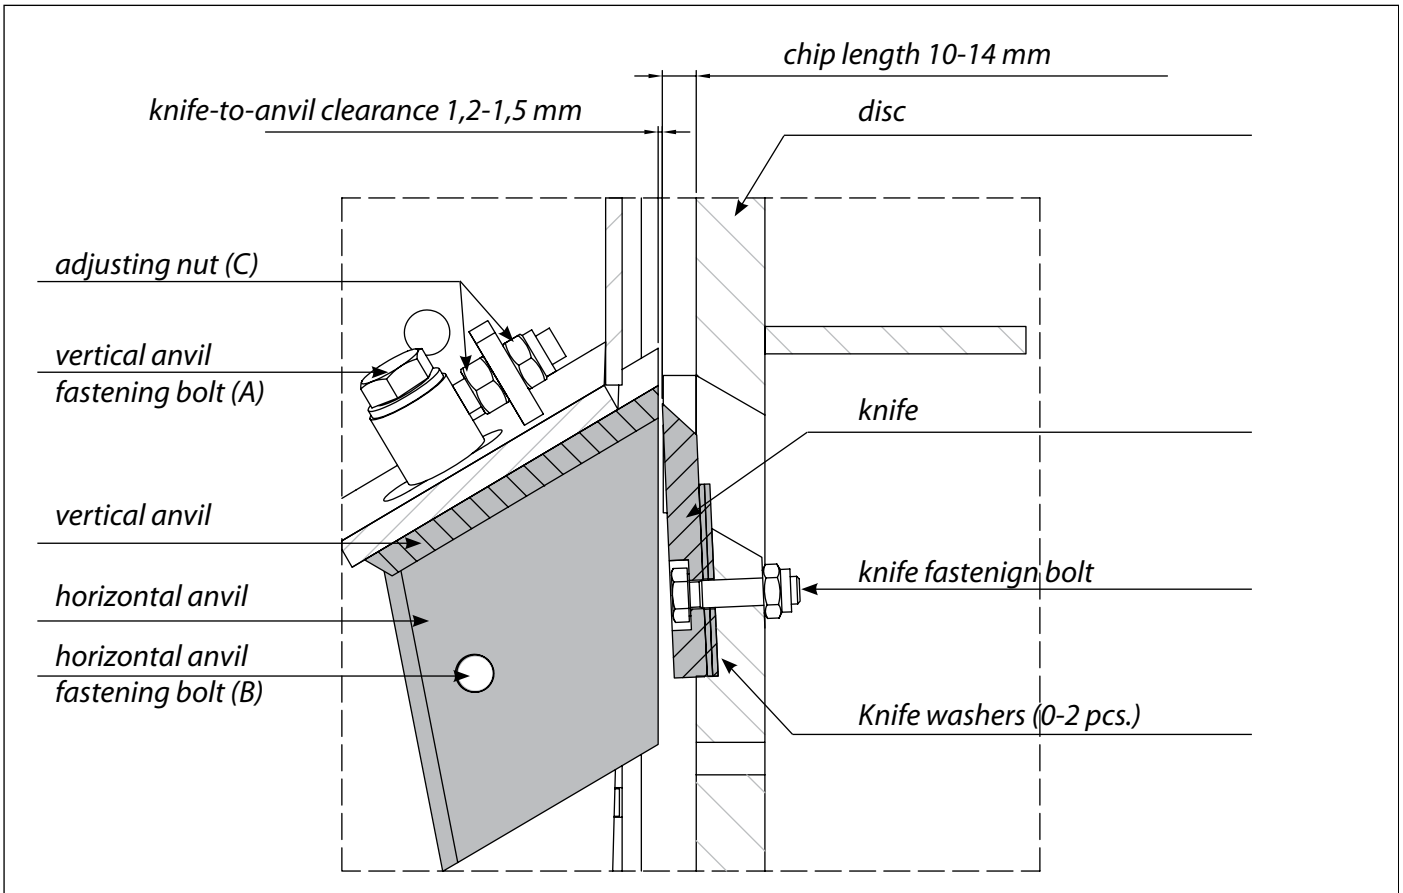

Fig. 27. Cross-section of the disk and knives / anvils
1. Loosen the M16 locking screws (A) and (B) of the anvils. See fig 27.
2. Turn the cutting disk in such a way that the front edge of the knife is exactly opposite the vertical anvil. Slide a feeler gauge between the knives. Adjust the play of the vertical anvil by the M12 adjusting nuts (C) to 1.2-1.5 mm (0.05-0.06").
3. Tighten the adjusting nuts (C) and the locking screws of the anvil (A).
5. Tighten the locking screw (B).